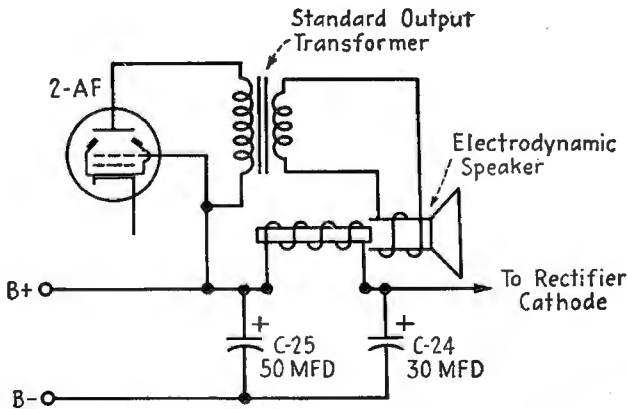

FIG. 18-33.—Replacing a hum-bucking-type output transformer. Method 5.
5. Use the circuit of Fig. 18-33. This replaces the P-M speaker with an electrodynamic unit.